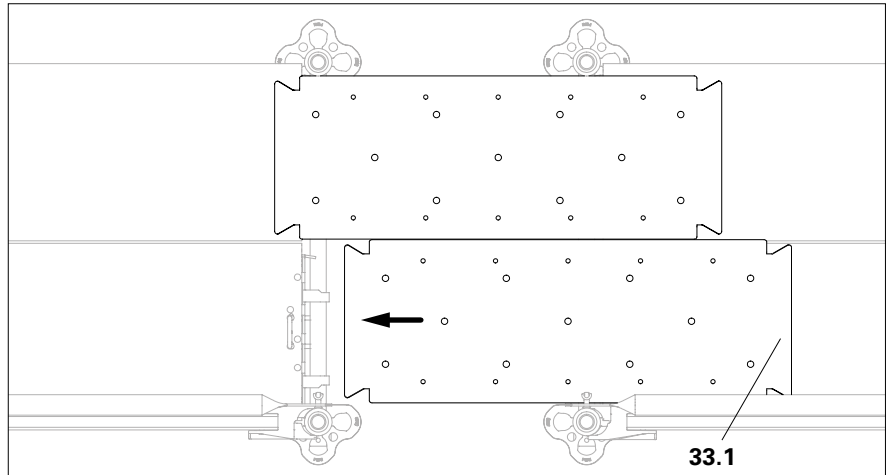

Fig. B7.02
1. On one side of the scaffolding, place the shiftable side (**33.1**) on the standard decking and shift the deck compensation towards the crossbar. (Fig. B7.02)